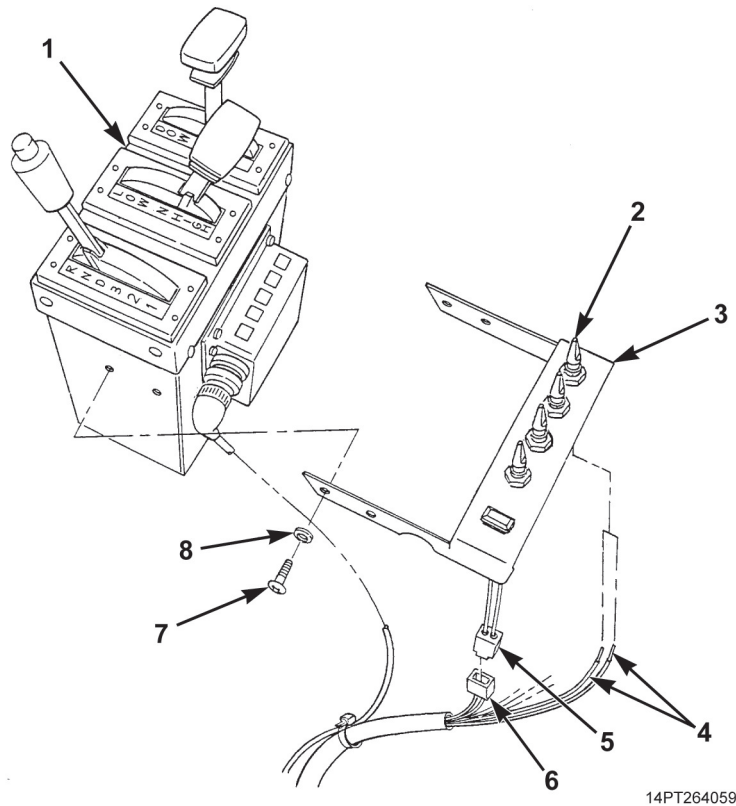

Figure 1. MCS Control Unit Removal.
1. Remove four screws (Figure 1, Item 7), washers (Figure 1, Item 8), and MCS control unit (Figure 1, Item 3) from shift tower (Figure 1, Item 1).
2. Disconnect indicator light connector (Figure 1, Item 5) from wiring harness connector (Figure 1, Item 6).
3. Disconnect four wiring harness leads (Figure 1, Item 4) from toggle switches (Figure 1, Item 2). Remove MCS control unit (Figure 1, Item 3).